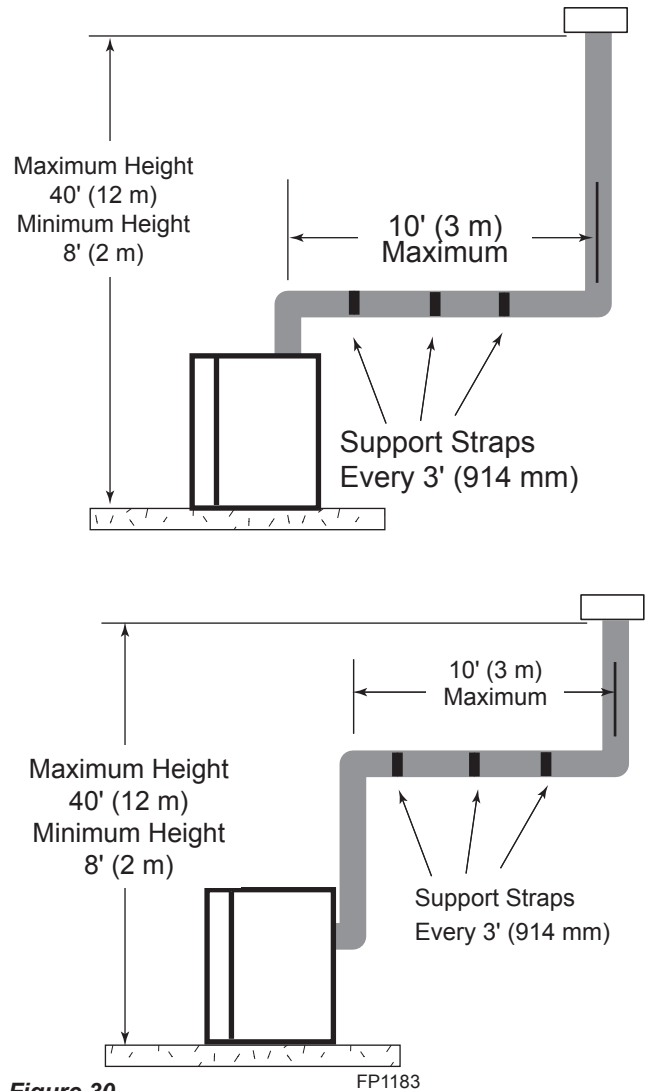

Figure 30 -
- Vertical installations up to 40' (12 m) in height. Up to a 10' (3 m) horizontal vent run can be installed within the vent system using a maximum of two 90° elbows. *Figure 30*